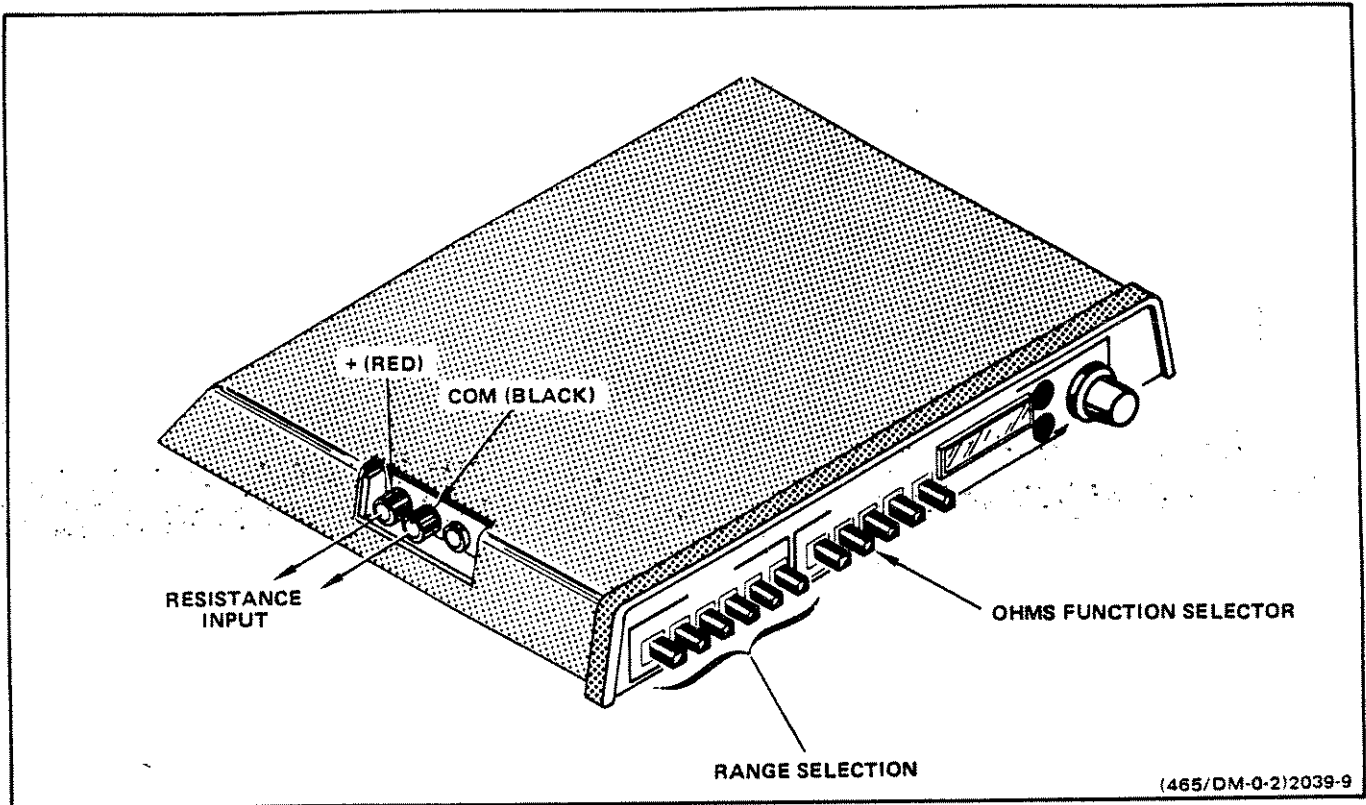

Figure 8. Resistance measurement.
1. Press the OHMS FUNCTION push button and the 20 M Ω RANGE push button (see Figure 8).